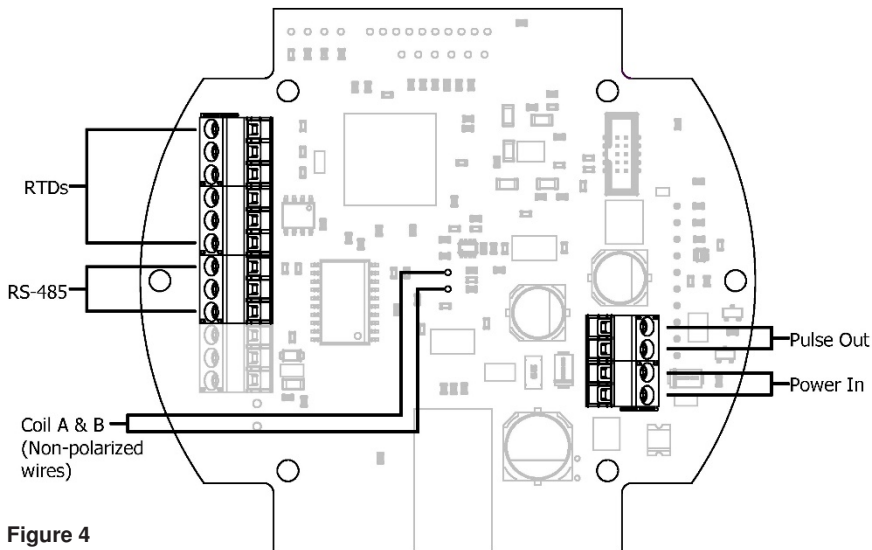

Figure 4
3. Remove the (6) #8-16 x 3/4 in. screws attaching the module cover plate to the base and separate. Do not damage the seal between the two components (see Figure 2). The (2) wires connecting the QSI PC board to the screw terminal of the pick-up circuit board are long enough to allow separation of parts. The wires may be disconnected from the screw terminal if necessary. The wires are non-polarized and may be connected to either screw of the screw terminal (see Figure 4).
6. Make sure the seal is in place on top of the base prior to reattaching (if previously disconnected) the (2) wires to the screw terminal of the pick-up circuit board.
9. Connect cable wires to the QSI PC board screw connectors (see Figure 4, 6, or 8 depending on your module version).
10. Mount the cover plate on the base making sure the seal is seated properly between them. Replace the (6) previously removed screws to secure the cover plate to the base. Tighten screws.